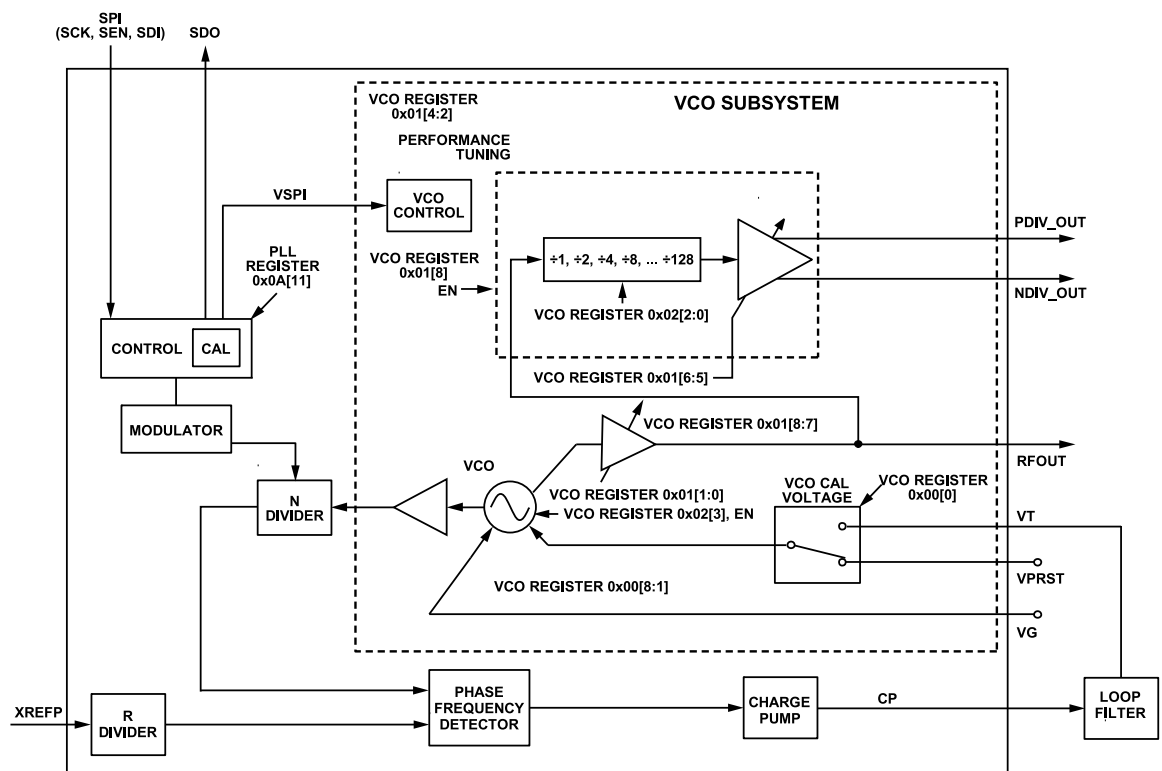
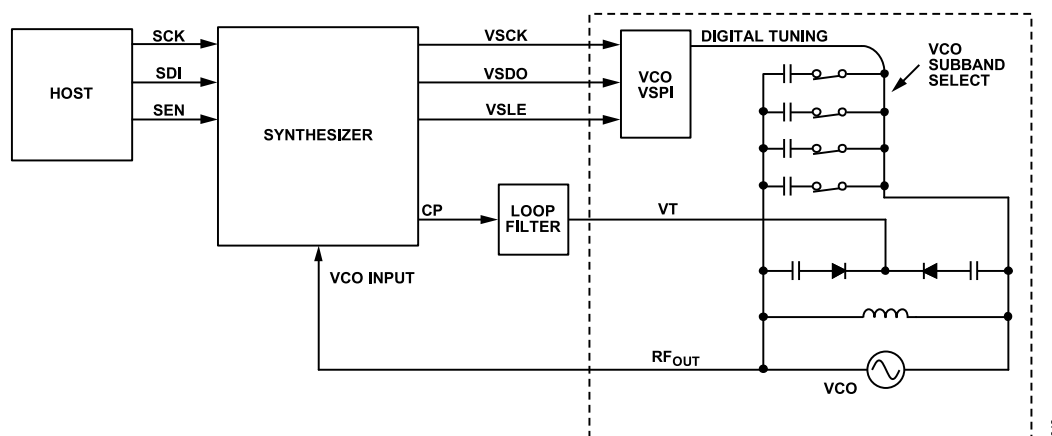

Figure 19. Detail of PLL and VCO Subsystems
Figure 20. Simplified Step Tuned VCO
See Figure 19 and Figure 20.
- ▶ All modes are VCO register programmable, as shown in Figure 19. One loop filter design can be used for the entire frequency of operation of the ADF5610.
The ADF5610 incorporates a step tuned VCO. A simplified step tuned VCO is shown in Figure 20. Step tuned VCOs are unique because they incorporate not only varactor diodes for frequency tuning, but also a digitally selectable, binary bank of capacitors. This bank of capacitors, along with the varactor diodes, defines the frequency range of each subband within a given VCO core. The ADF5610 contains two VCO cores, each with their own bank of capacitors. Multiple VCO cores allow not only broader frequency coverage, but also more consistent tuning sensitivity across the band.